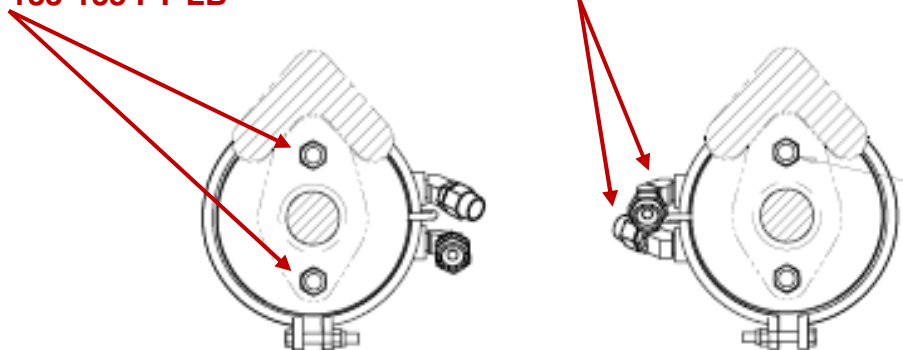

FIGURE 6: CENTER AXLE BRAKE CHAMBER INSTALLATION
10. Repeat steps 4 through 8 for center brake chamber replacement, See figure 6.